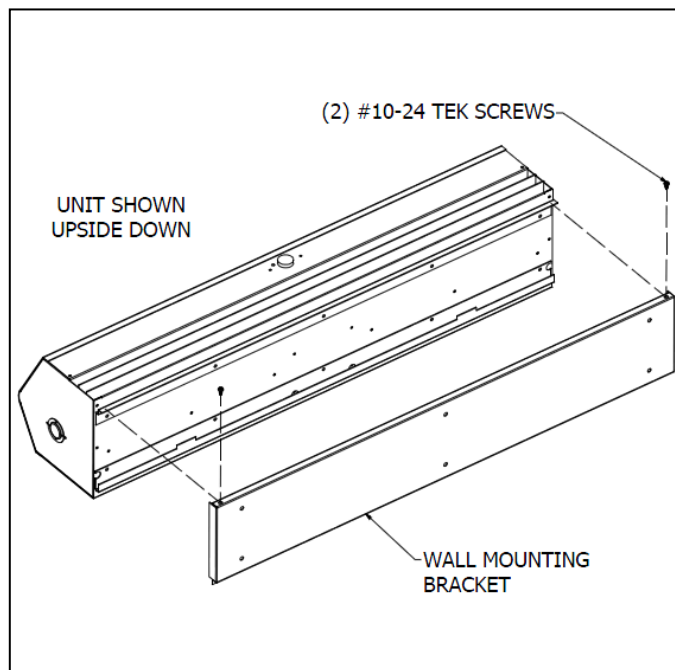

FIG. 1
2. Lay unit on its top with directional vanes pointing up and remove the Tek Screws from the wall mounting plate, just behind the discharge nozzle, and remove the mounting plate from the unit. (FIG. 1) Measure the mounting plate and center it over the opening. The air curtain shall be equal to or greater than the width of the opening.